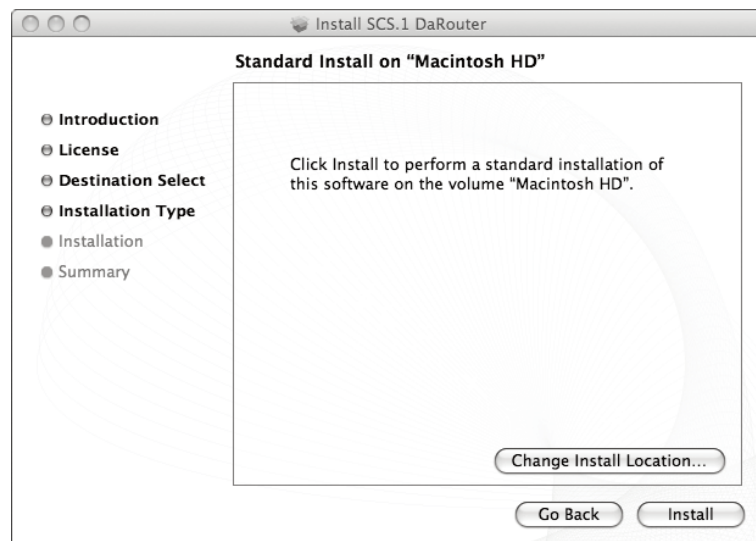

Figure 4.21
- Next, you can set the default path of the program. Click **Install** unless you want to install DaRouter to a specific destination. (Figure 4.21)